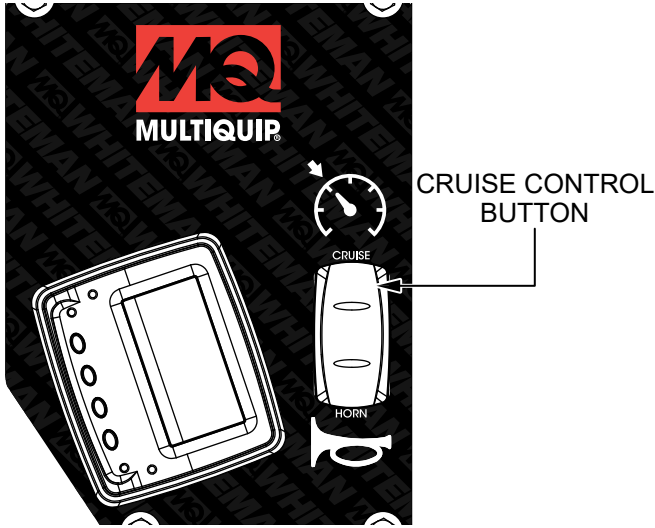

Figure 26. Cruise Control Button
2. Press the **cruise control button** (Figure 26).